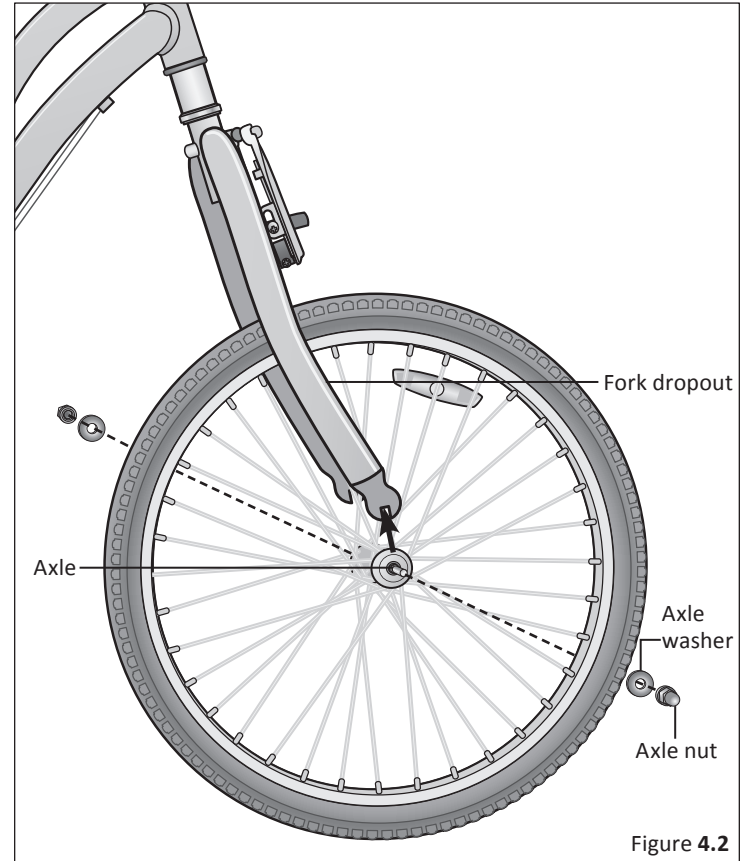

Figure 4.2
2. A hollow axle with a shaft **skewer** running through it which has a nut on one end and a fitting for a hex key, lock lever or other tightening device on the other (through bolt, **Figure 4.2**)